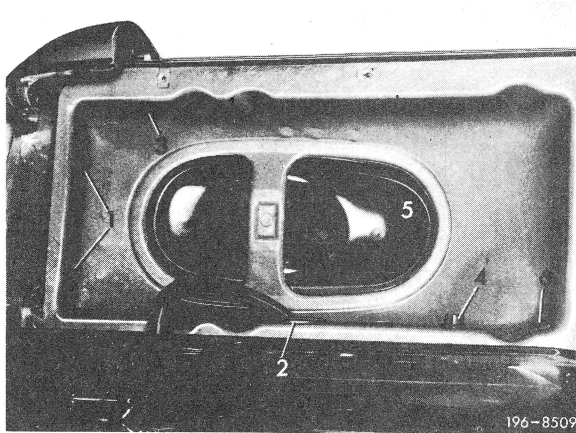

Fig. 1
1 Seal screws (1) for front fender in headlight shell (Fig. 1).
2 Check socket (2) for cables and seal, if required (Fig. 1).